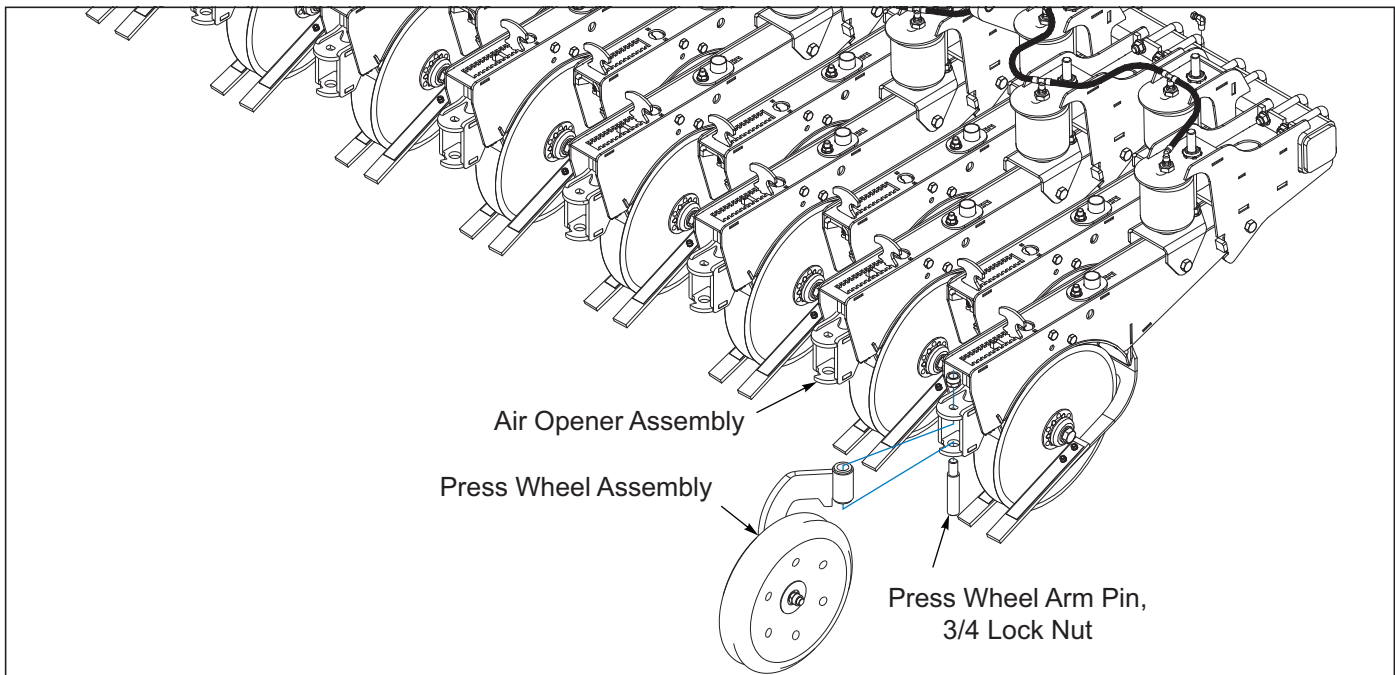

Figure 3-1: Air Opener Press Wheel Assembly
1. Attach each press wheel assembly to each air opener assembly on the Grain Drill using press wheel arm pin and 3/4 lock nut **See Figure 3-1.**
2. Attach each press wheel assembly to each spring opener assembly on the Grain Drill using press wheel with press wheel arm bushing, 5/8 x 4 bolt and 5/8 flange head nut **See Figure 3-1.**